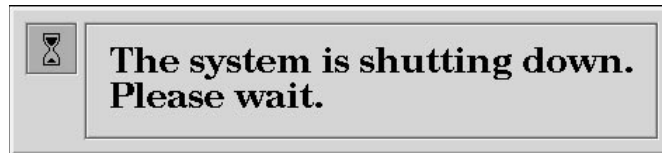

Figure 1-28 Shutting Down the System Notifier
2. To power off the system, click *Power Off the System* and then click *OK*. The screen clears and you see the notifier shown in Figure 1-28. After a few seconds, the system powers off.